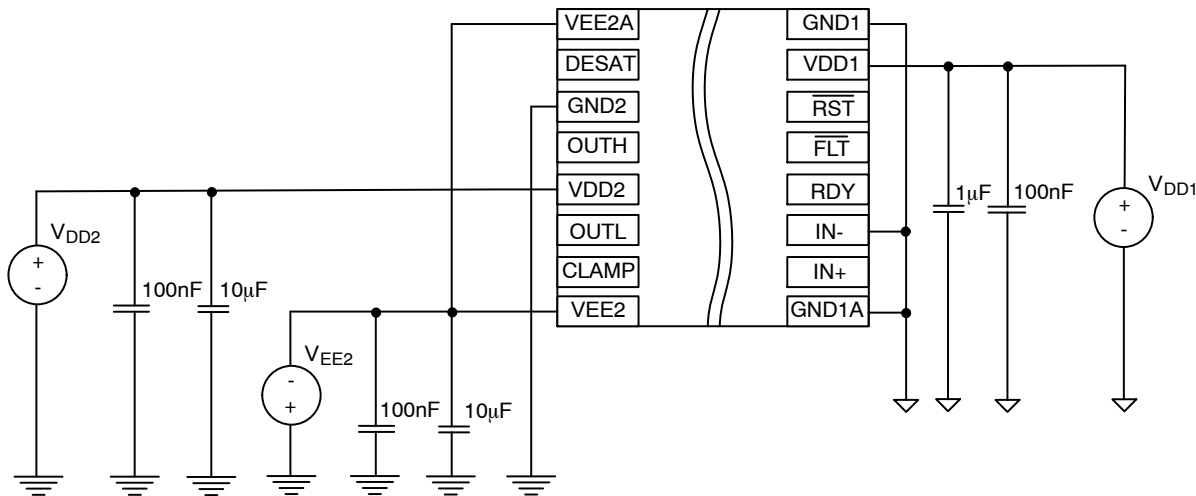

Figure 41. Bipolar Power Supply
- In bipolar power supply the driver is typically supplied with a positive voltage of 15 V at VDD2 and negative voltage -5 V at VEE2 (Figure 41). Negative power supply prevents a dynamic turn on throughout the internal IGBT input capacitance.